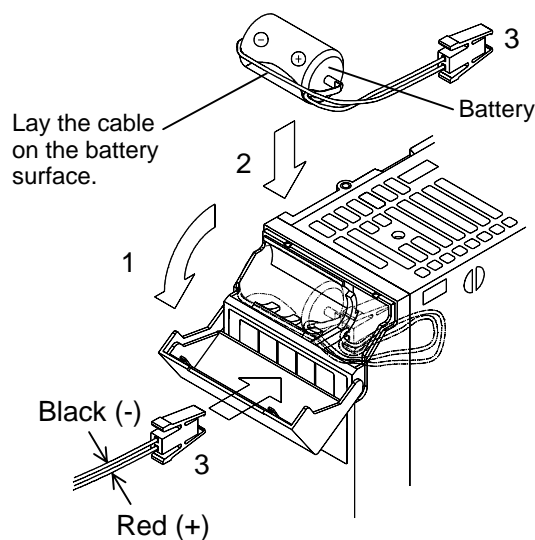

Fig. 1
- 2- Set the battery in the battery housing with its positive side on the receptacle side as shown in Fig. 1.
- 4- Lay the battery cable surely on the battery surface as shown in Fig. 1 and house the excessive cable in the cable housing.